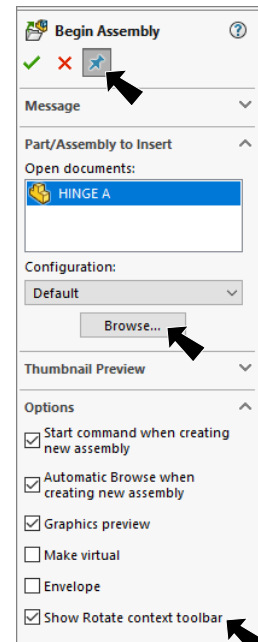

Fig. 1
click **Keep Visible** , Fig. 1
Step 4. Click **Browse** in the Property Manager, Fig. 1.